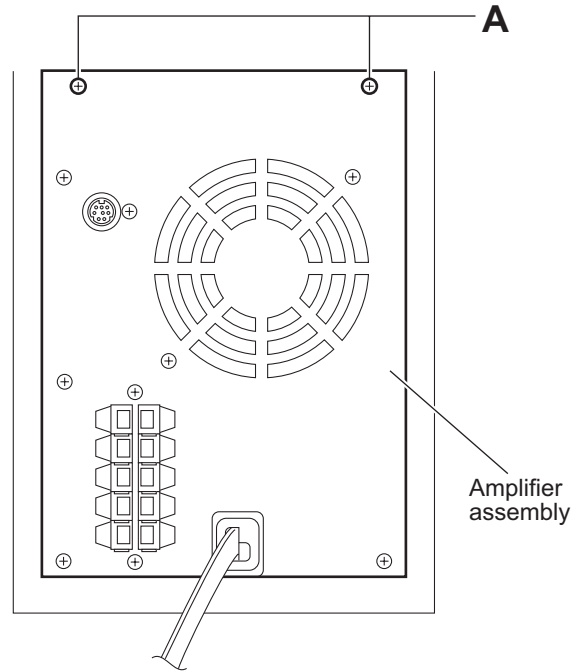

Fig.1
(See Figs.1 to 3)
- (1) From the back side of the speaker main body, remove two screws **A** attaching the amplifier assembly. (See Fig.1)